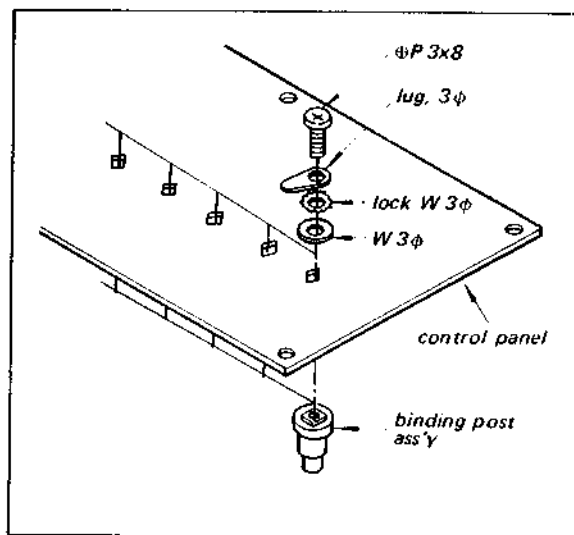

Fig. 2-2. Binding post replacement
1. Remove the screw ( $\Phi P 3 \times 8$ ) securing the defective binding post to the panel as shown in Fig. 2-2, and then install the replacement one.